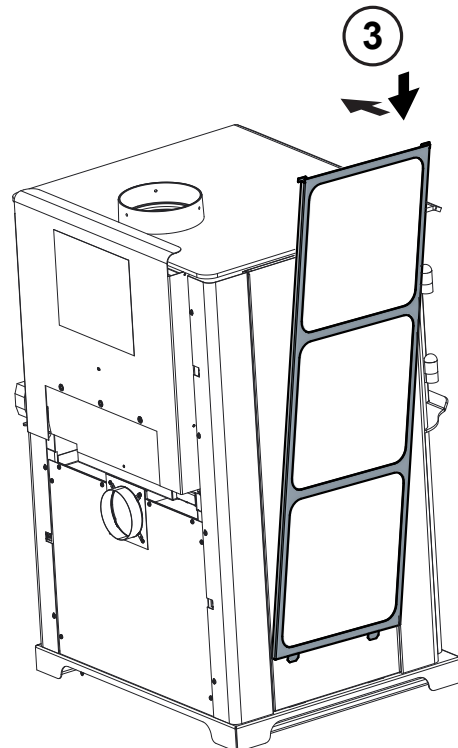

Figure 16.5
3. Reattach tile frame Figure 16.5.